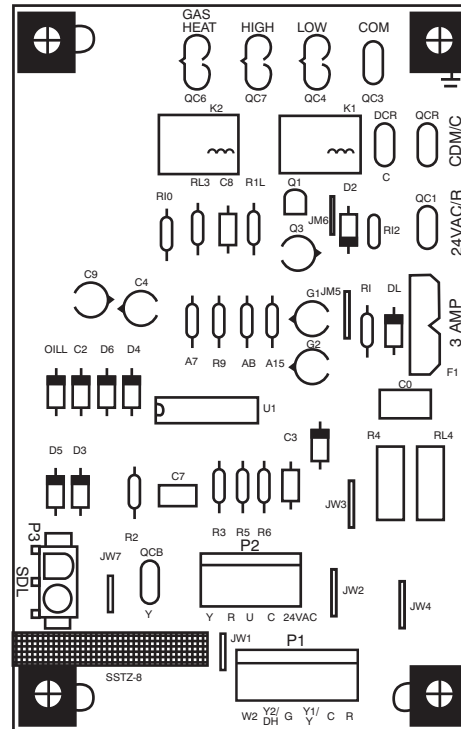

Fig. 13 - Interface Fan Board (IFB)
This unit is factory-set up for use with a single cooling fan speed. The cooling speed is marked “LOW” on the interface fan board (IFB) (See Fig. 13). The factory-shipped settings are noted in Table 7. There are 3 additional speed tap wires available for use in either gas heating or cooling (For color coding on the indoor fan motor leads, see Table 6). The additional 3 speed tap wires are shipped loose with vinyl caps and are located in the control box, near the interface fan board (IFB) (See Fig. 13).
2. Remove the current speed tap wire from the “GAS HEAT” terminal on the interface fan board (IFB) (Fig. 13) and place vinyl cap over the connector on the wire.
2. Remove the current speed tap wire from the “LOW” terminal on the interface fan board (IFB) (See Fig. 13) and place vinyl cap over the connector on the wire.
1. Remove fan speed tap wire from the “LOW” terminal on the interface fan board (IFB) (See Fig. 13).
When the DEHUM feature is not used, the continuous fan speed will be the same as cooling fan speed. When the DEHUM feature is used, the continuous fan will operate on IFB “LOW” speed when the DH control lead is not energized, or IFB “HIGH” speed when the DH lead is energized (see Fig. 13).